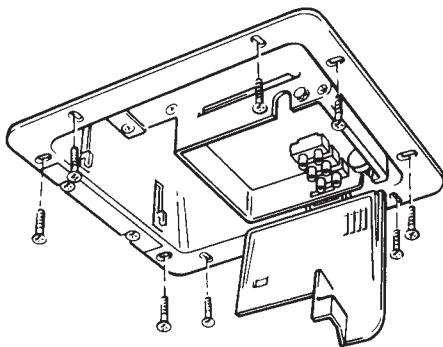

Fig.5
- ◆ Fix the fan to the ceiling clamp using the screws provided. (Fig.5).